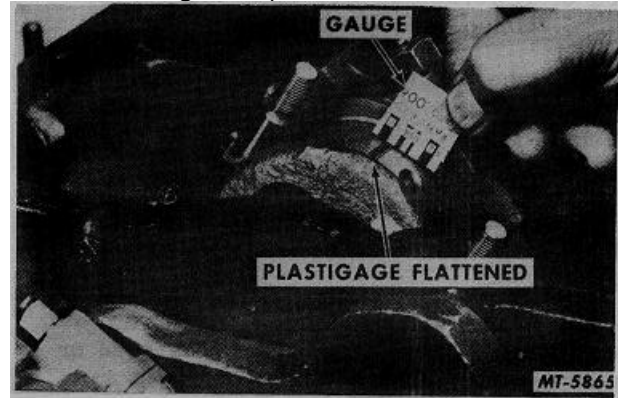

Fig. 120 Checking Connection Rod Bearing Clearance
4. Remove bearing cap and use Plastigage scale to measure widest point of Plastigage (Figure 120). This reading indicates bearing clearance in thousandths of an inch.